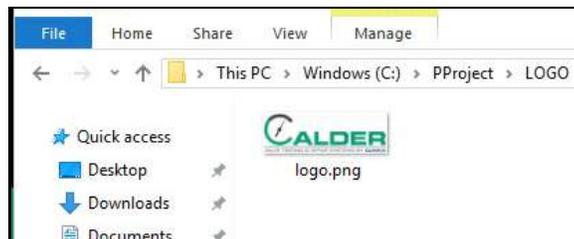

FIGURE 3-4. LOGO FILE LOCATION
1. In Windows Explorer on your DAAS machine, open the C drive > PProject > Logo (see Figure 3-4).